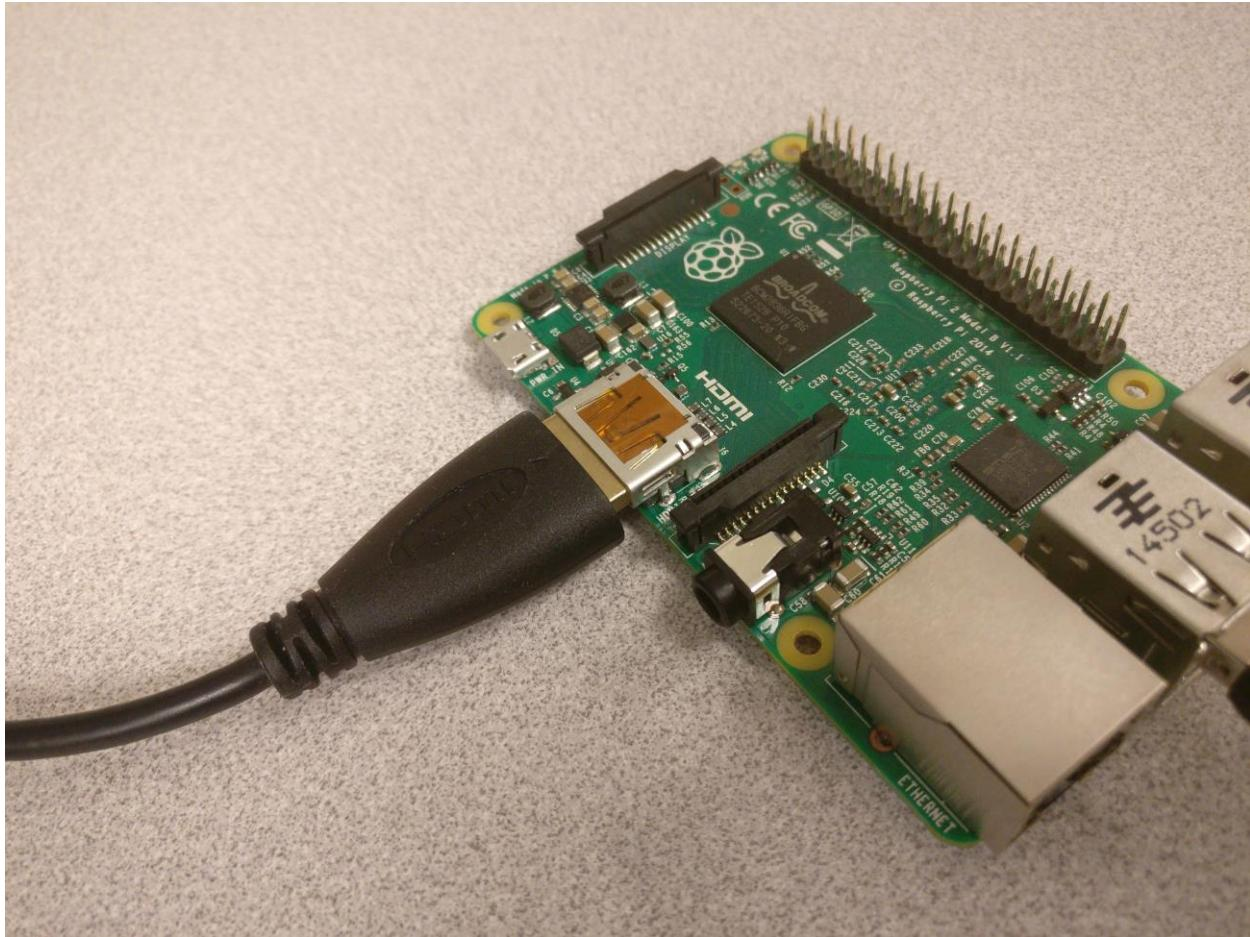

Figure 11-2 – HDMI cable plugged into HDMI port on Raspberry Pi 2B
2. Plug the monitor's HDMI (or DVI-I-to-HDMI) cable into the Raspberry Pi's HDMI port, as shown in Figure 11-2.